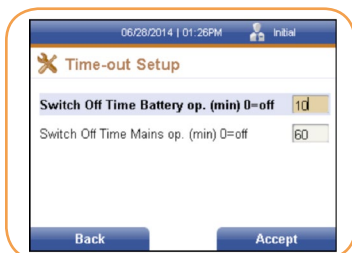

FIGURE 16
2. Press the right soft key to select it. The Time-out Setup screen is displayed (Figure 16).